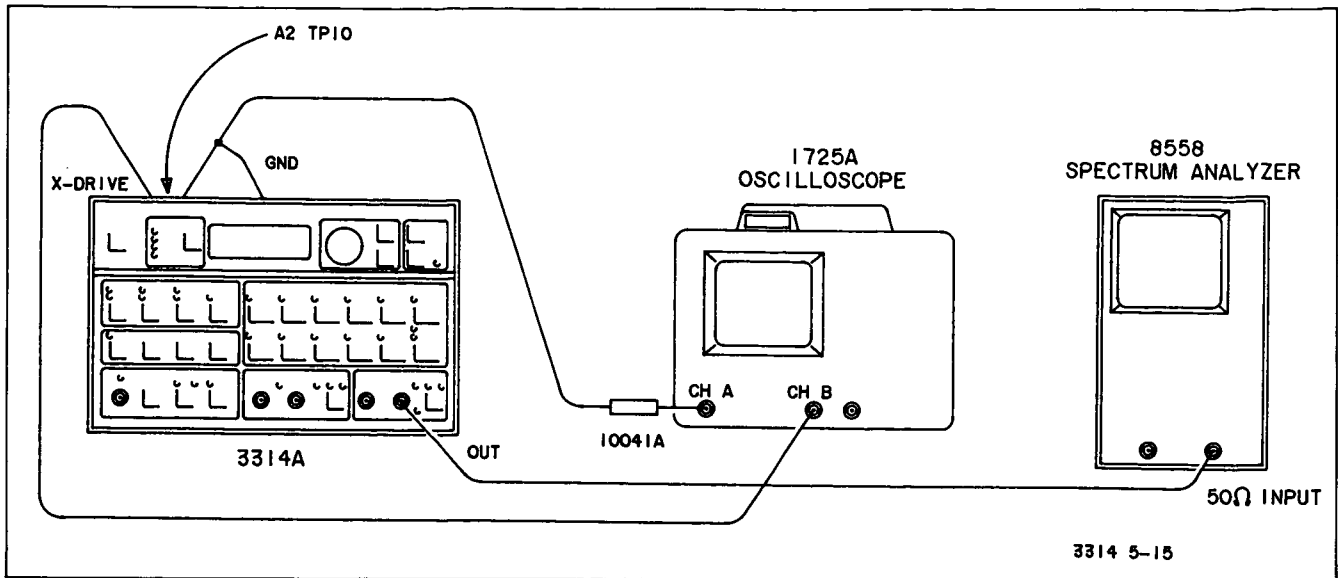

Figure 5.15. High Frequency Harmonic Distortion Adjustment
G. Connect the 3314A to the oscilloscope and spectrum analyzer. (See Figure 5-15.)